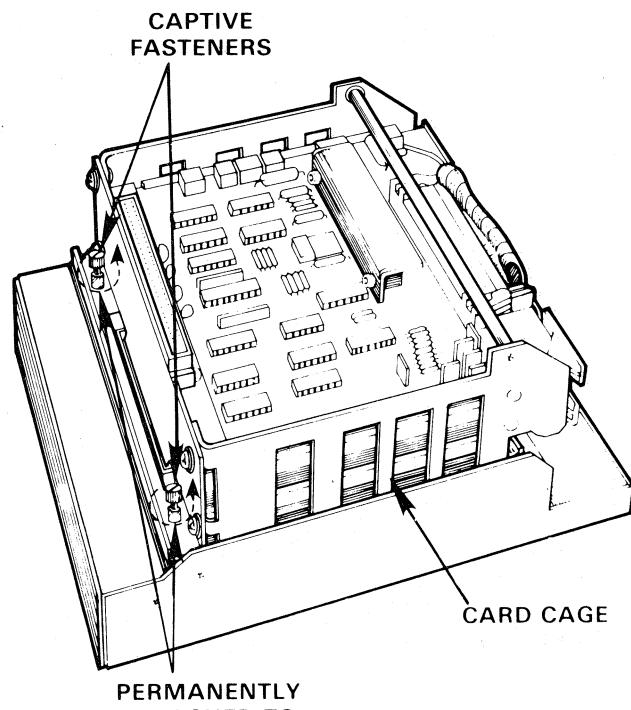

Figure 4-1a) Unscrew captive fasteners.
3. Unscrew the captive fasteners (figure 4-1a) until they hang loosely; the screws will not separate from their standoffs.